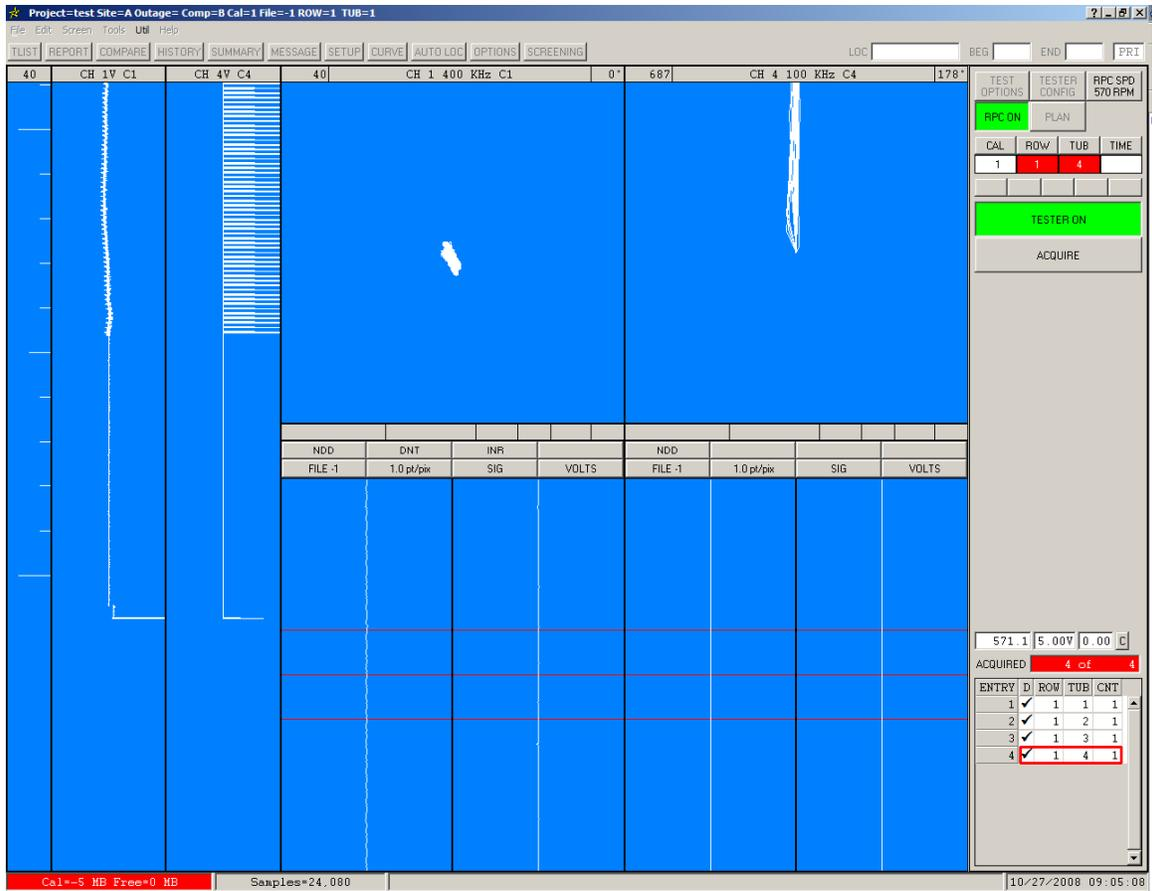

Figure 9
- Set RPC speed to desired operation speed. **Figure 9** shows a speed of 570 RPM.
- iii. Select RPC OFF to allow the screen to show RPC speed, then TESTER OFF to turn on the tester. When the trigger is pressed the rotation speed will be displayed in the box to the left of the box that says 5.00V. **Figure 9** shows a rotation speed of 571.1 RPM.